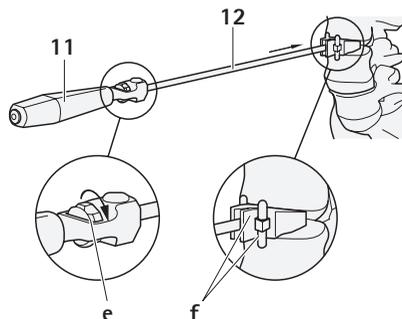

Fig. 15
- ▶ Mount chisel guide 12 with the desired implant height and angle onto the handle 11, see Fig. 15.